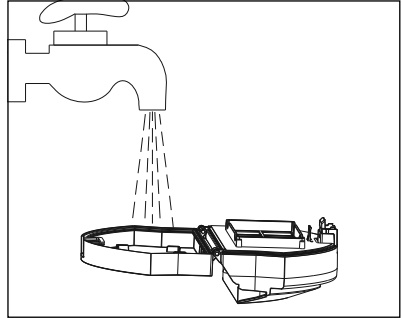

Fig. 12
- 6) Clean the dust container **1b** and the sieve filter with cold or lukewarm water (see Fig. 12). Allow the dust container **1b** and sieve filter to air dry completely before reinserting the dust container **1b** into the appliance.